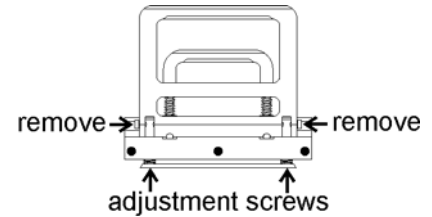

Figure 3-2. Screws
2. Remove the screws from the sides of the handle, as indicated in Figure 3-2. Remove the handle.